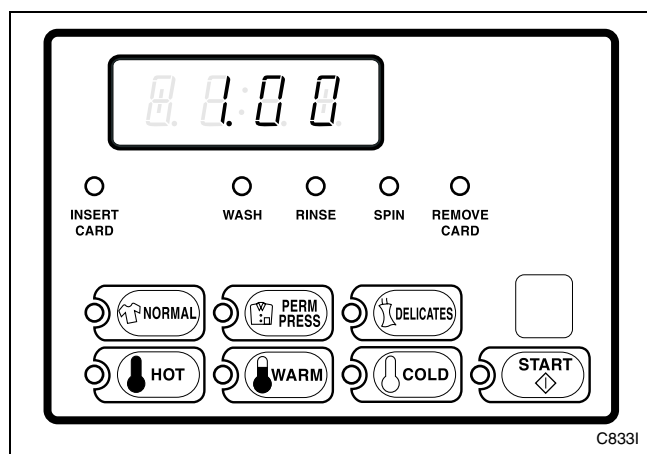

Figure 2
When power is applied to the washer, the control will display *INSERT COINS/CARD*, the decimal point, and the vend price. The *INSERT COINS/CARD* light will remain lit until the vend price has been satisfied. The default cycle setting is PERM PRESS, the default wash water fill temperature is WARM, and the default rinse water temperature is COLD. The LEDs will be lit on PERM PRESS and WARM at the start of the cycle. Refer to *Figure 2*. These default settings are owner programmable. Refer to *Programming NetMaster*.
When a cycle is complete, the control will display “:00” until the lid is opened, a key is pressed, or a coin/card is entered. When one of these three options occur, the display will revert back to the ready mode. Refer to *Figure 2*.
If the washer lid is opened anytime except the last three minutes of a cycle, the VFD will display “Lid” and the timer will stop. Once the lid is closed, the cycle will restart from the point of interruption. If the lid is opened in the final three minutes of the final spin cycle, the timer will continue to count down to the end of the cycle. The cycle operation will stop and the VFD will display “Lid”. When the timer reaches 0 minutes, the control will return to the “Ready” mode. Refer to *Figure 2*.
This feature allows the user to return NetMaster back to the ready mode if coins have been entered but the full vend price has not yet been satisfied. Refer to *Figure 2*.
1. Be sure the washer is in the ready mode before continuing to step 2. Refer to *Figure 2*. If the washer is in an active cycle, rapid advance through the cycle. Refer to **Rapid Advance Feature**. If coins or a card has been entered, refer to **Clear Vend Feature**.